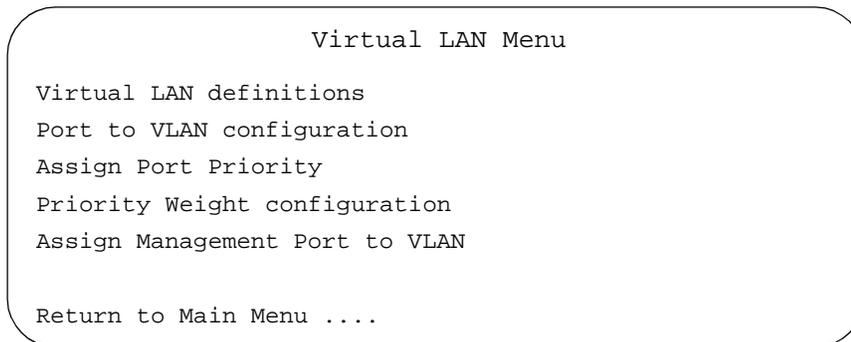

Figure 44 Virtual LAN/QoS Menu
The Virtual LAN/QoS menu in Figure 44 is displayed.
1. From the Omega Main Menu, select *Virtual LANs/QoS*. The Virtual LAN/QoS menu in Figure 44 is displayed.